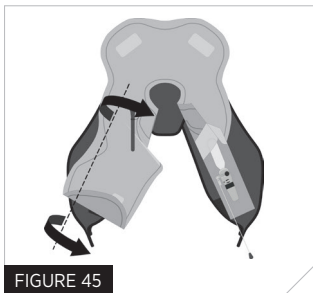

FIGURE 45
6. Fold outside edge in towards the centre of the bladder along fold line 6 (Fig 45).